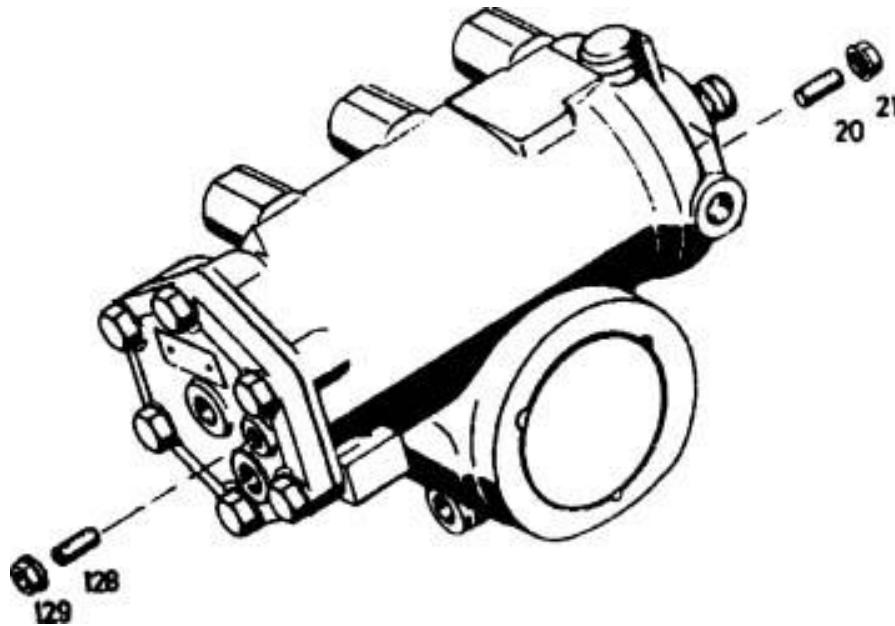

Fig. 11-16 Limit valve
- As shown in Fig. 11-16, on the top and bottom end covers, there are limit valve adjusting bolts 20 and 128 installed.